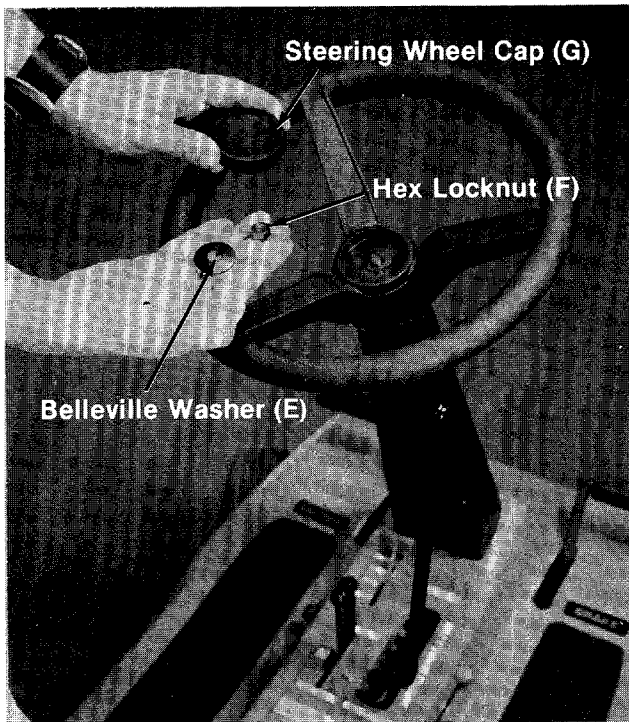

FIGURE 5.
8. Place the steering wheel on the tubing assembly and fasten with belleville washer (E) and hex lock nut (F). See figure 5. ←
10. Place the steering wheel cap on by hand. See figure 5.